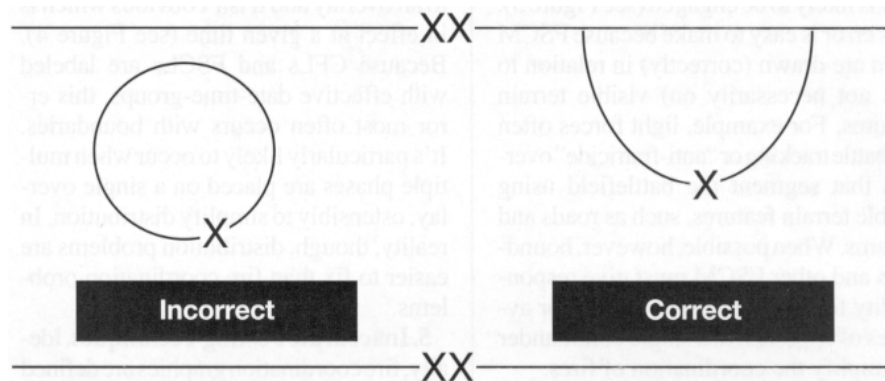

Figure 1: Insufficient Coordination Space. This error occurs when FSCM create corridors or other limited areas within which fire must be cleared.
Insufficient coordination space is when FSCM create corridors or other limited areas within which fires must be cleared (see Figure 1). The size varies with terrain. When you add the range probable error (PE) of the weapons system, likely target location error (TLE) and self-location error of friendly forces, it becomes clear why graphics that define one- or even two-kilometer corridors can cause problems in the safe, rapid coordination of fires. Figure 1 illustrates the point of vulnerability that can exist between measures and shows a way to correct it.